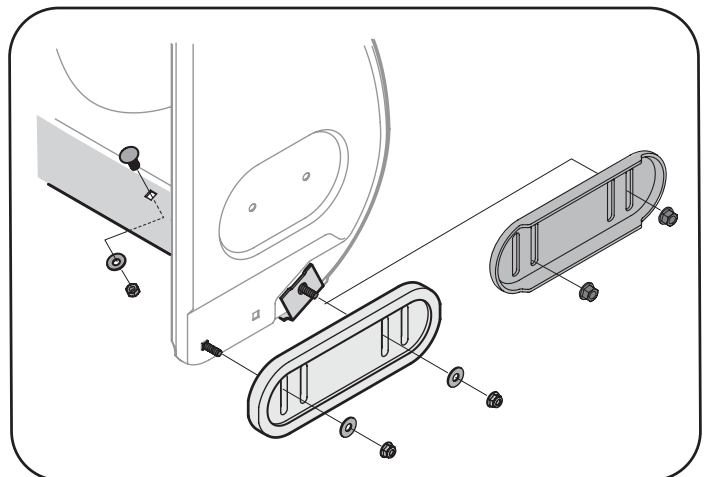

Figure 27
2. Reassemble new skid shoes with the four carriage bolts (two on each side), washers, and hex flange nuts. Refer to Figure 27.
2. Reassemble new shave plate, making sure heads of carriage bolts are to the inside of housing. Tighten securely. See Figure 27.